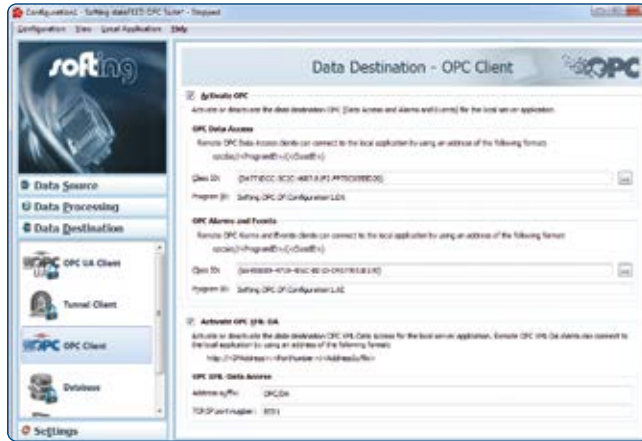

Figure 79: Choose the OPC Client Data Destination.
14. Copy the Class ID of the OPC Data Access (Figure 79).